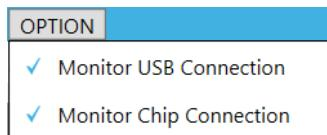

Figure 11: Option Configuration
- Communication Address: The default slave address is 01h, and the configurable communication address range is 00h to 7Fh. After changing this value, the new address should be used for the next communication. For devices with different “xxxx” codes, the default address may be different. The GUI automatically scans the address, though this function can be disabled by unchecking “Monitor Chip Connection” in the “OPTION” tab (see Figure 11).